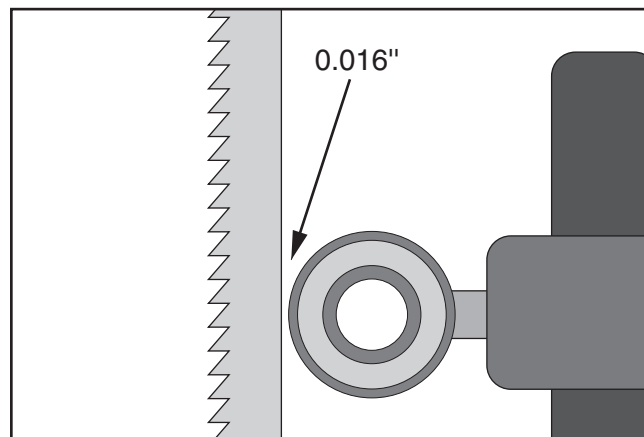

Figure 25. Bearing positioned 0.016" away from back of blade.
3. Position support bearing approximately 0.016" away from back of blade (see **Figure 25**).
3. Position support bearing approximately 0.016" away from the back of the blade, as illustrated in **Figure 25**. This can be measured with a feeler gauge.